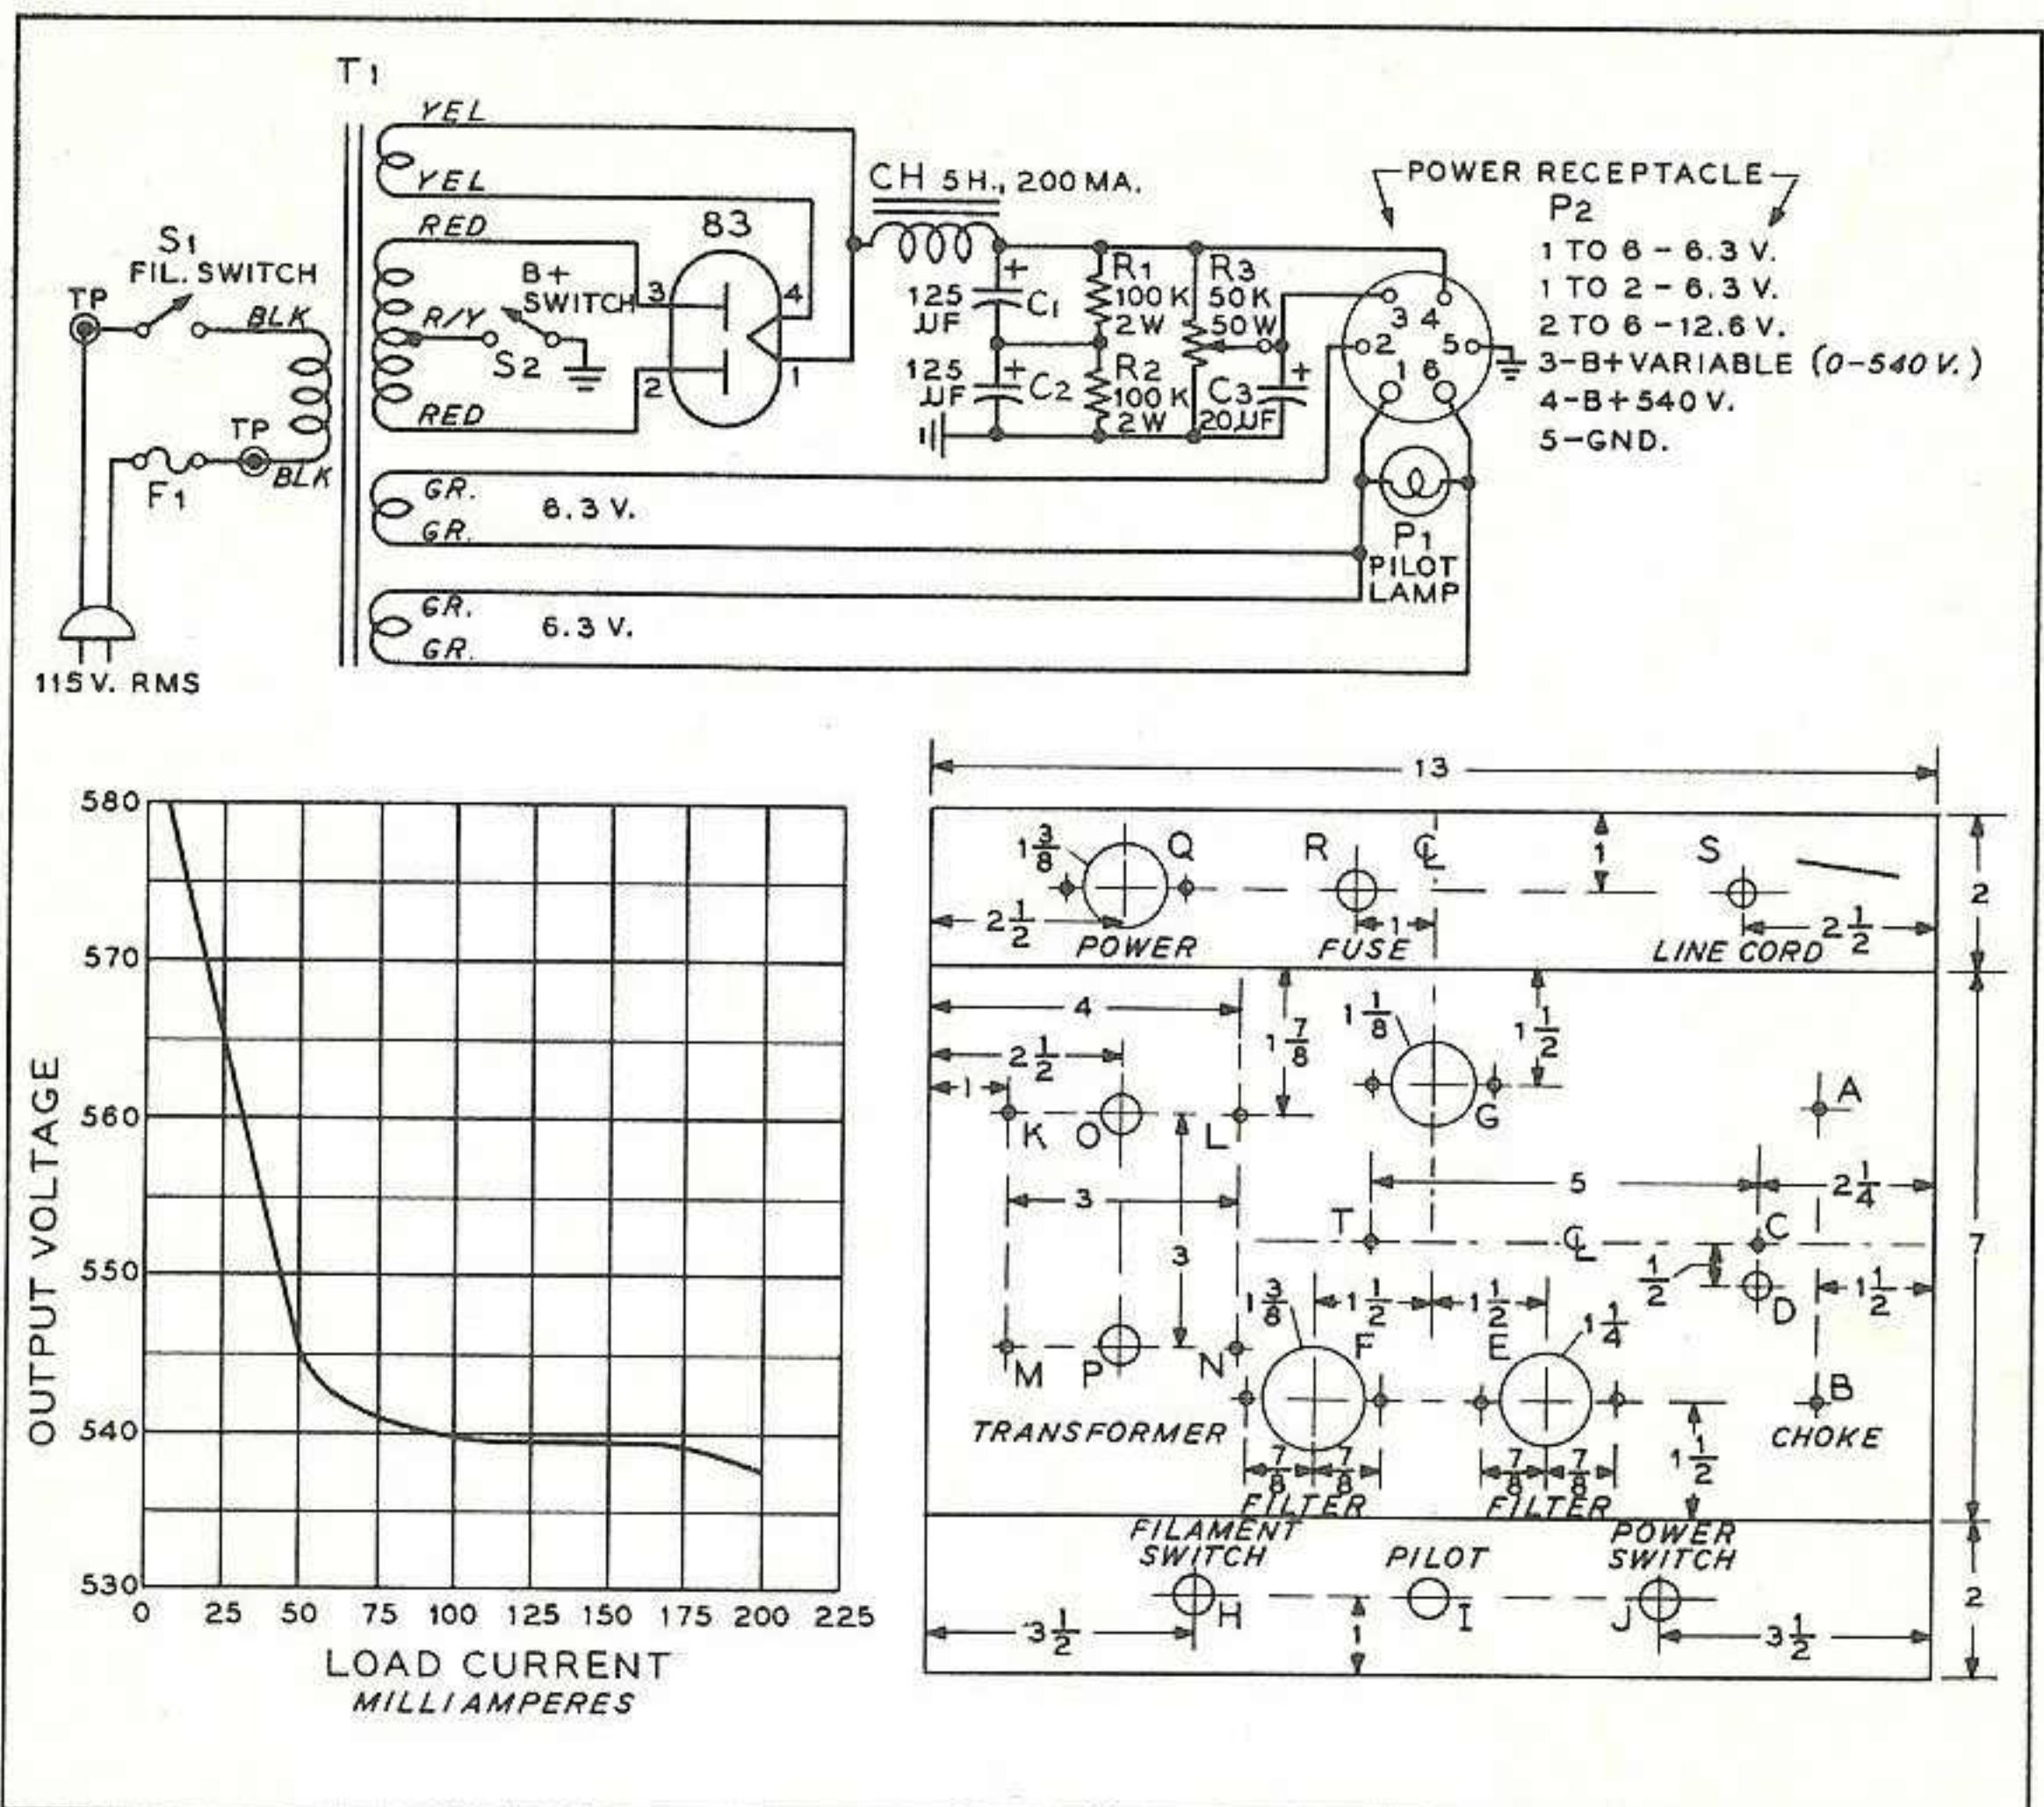

Fig. 11 Schematic, regulation curve, and chassis layout of 500 volt supply.
The schematic diagram of the supply, and the voltage regulation curve are shown in Figure 11, together with a complete parts list. A full wave rectifier circuit is employed, using an 83 mercury vapor rectifier tube, and a single section choke input filter system. Because the output voltage rises to approximately 580 volts with no external load, the inexpensive 450 volt filter capacitors would probably break down after a short time when employed in this fashion. However, two of these capacitors are connected in series in this supply, providing an effective voltage rating of 900 volts. The two series capacitors (C1 and C2) each have a capacity of 125 mf. When series connected, the effective capacity is 62.5 mf. The purpose of the two resistors (R1 and R2) is to equalize the voltage distribution across each of the capacitors.
- () Mark all the holes to be drilled in the chassis on the paper wrapper of the chassis, as shown in Figure 11. Drill the chassis, then remove the paper. Spray the outside of the chassis with a coat of clear Krylon to protect the chassis from smudges and smears.
- () Mount switch (S1) in hole (H), with the terminals towards the top of the chassis. Mount switch (S2) in hole (J), in the same manner. Install the pilot light holder (P1) in hole (I).
- () Mount the fuse holder (F1) in hole (R). Mount the six pin power socket (P2) in hole (Q). Mount the four pin rectifier socket (X1) in hole (G).
- () Mount one of the 125 mf capacitors (C2), in hole (E), using a metal mounting ring.
- () Mount the other 125 mf capacitor (C1) in hole (F), using a fibre mounting ring. Check the four mounting tabs to see that none are touching the chassis. Slide the insulating cardboard case over this capacitor, after placing a drop of cement inside the case to make sure it will not fall off the capacitor.
- () Insert a ¾" grommet in hole (D). Insert a second ¾" grommet in hole (S).